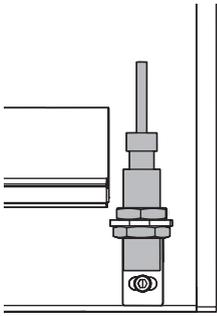

Fig. 43 Install the proximity sensor on the outside
5. Attach the proximity sensor as shown in Fig. 43 with the nut (1x top and 1x bottom) to the angle bracket.